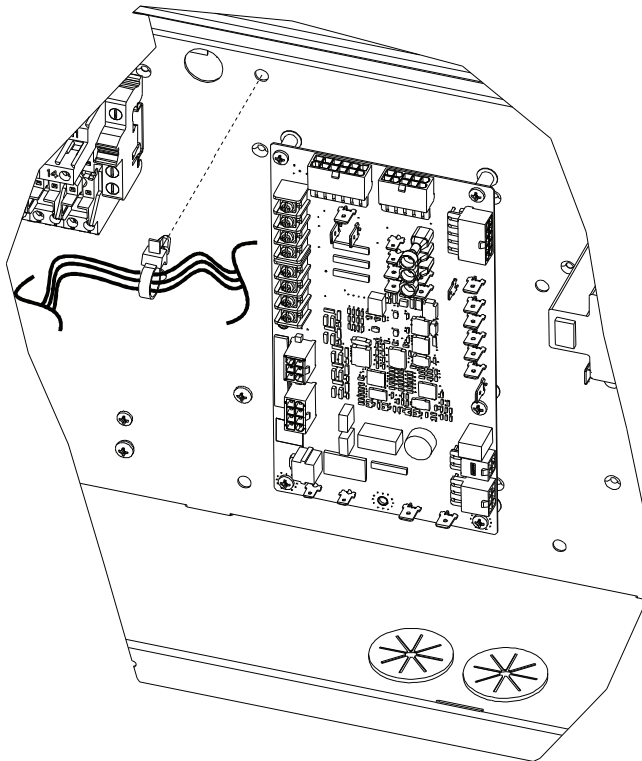

Fig. 22 — Main Wiring Ribbon, Secure Over the UCB Mounting Bracket
8. Using the supplied zip ties, neatly gather all wires above the UCB and tie them together. (See Fig. 22.)